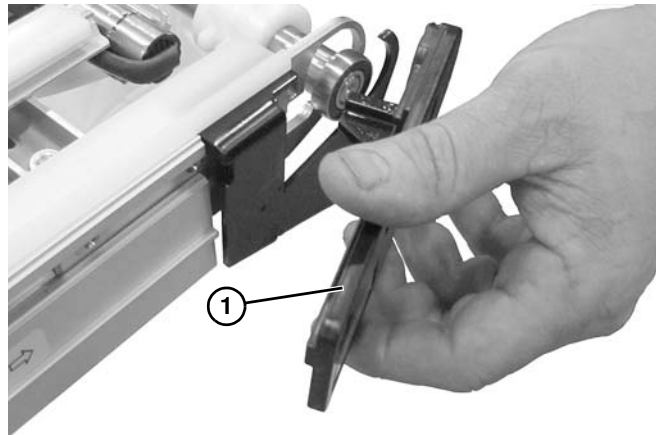

Figure 68
10. Remove tail plate (**Figure 68, item 1**) from frame.